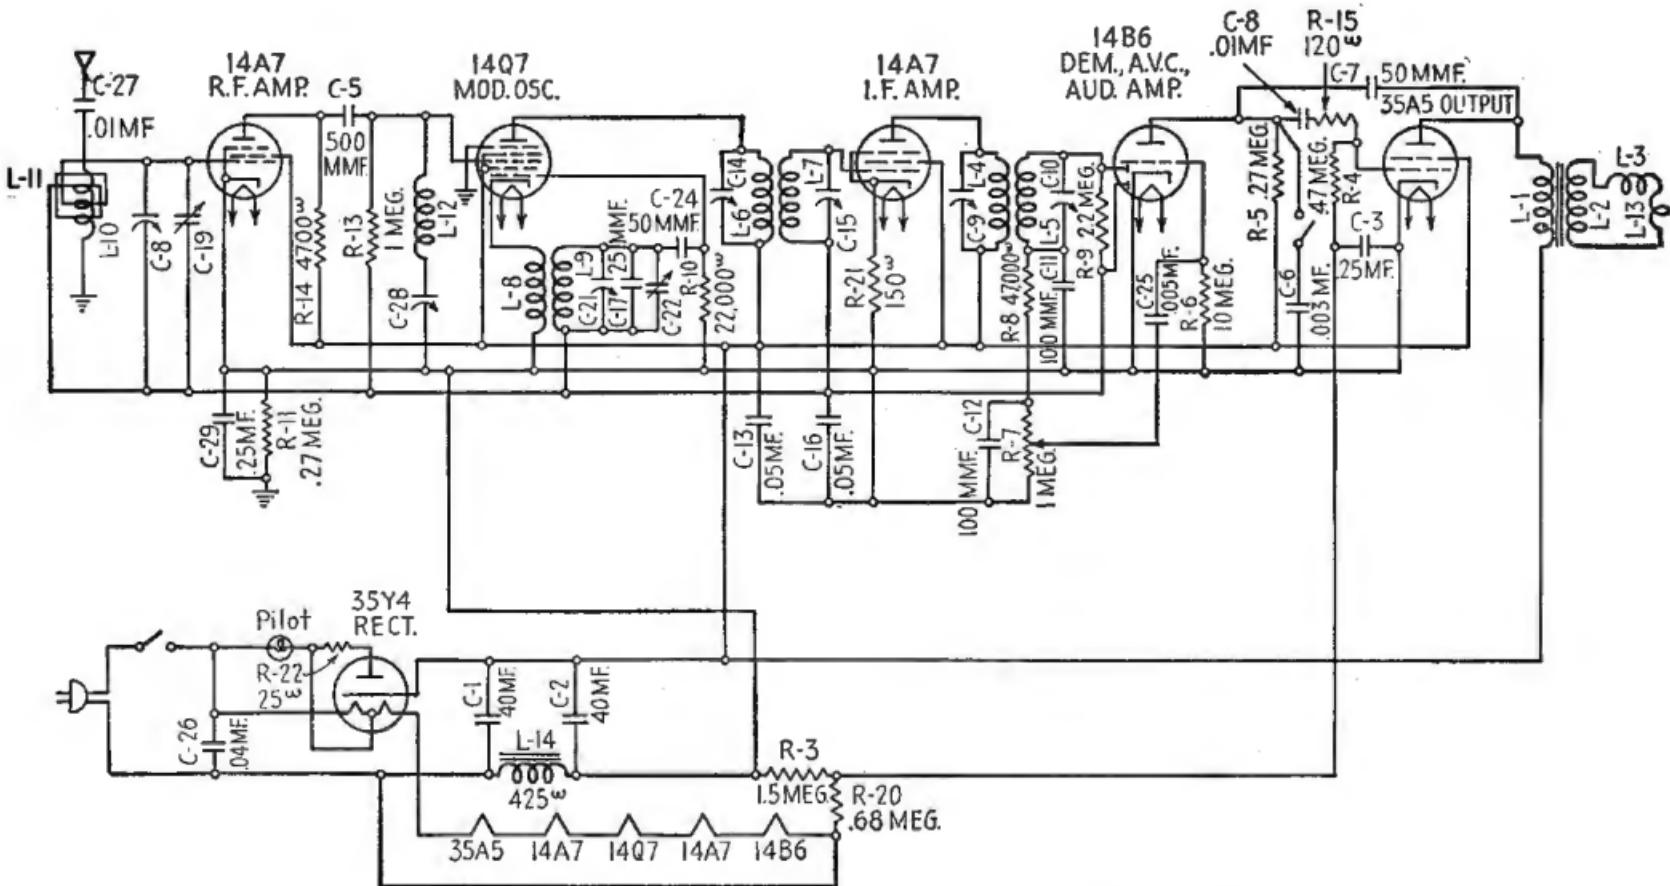

FIG. 16-10.—Schematic diagram of the Stromberg-Carlson No. 1000 receiver.
In loop receivers, the trap is usually placed in the converter signal grid circuit, where it serves a similar purpose by providing a low-impedance path to ground for signals at the intermediate frequency, which may be present in the converter signal grid circuit. Coil $L-12$ and condenser $C-28$ make up this type of wave trap in the receiver of Fig. 16-10.
RF Stage Followed by an Untuned Converter.—Many receivers employ an RF stage that is resistance-coupled to the converter signal grid. This arrangement gives the receiver some of the advantages of an RF stage while using only two tuned circuits: the RF grid and the oscillator. The Stromberg-Carlson No. 1000 receiver shown in Fig. 16-10 uses this type of circuit.
The coupling between the RF and the converter tubes consists of RF plate load $R-14$, coupling condenser $C-5$, and converter signal grid load $R-13$. The circuit composed of $L-12$ and $C-28$ in the converter signal grid is a wave trap tuned to the intermediate frequency of the receiver. Similar circuits in other receivers use different values for the components in the resistance-coupling circuit. The plate load varies from 5,000 to 10,000 ohms. The coupling condenser varies from 0.0001 to 0.0005 mfd. The grid-load resistor is often smaller than the one shown in the diagram, 25,000 to 100,000 ohms being more usual. Another circuit difference is that some receivers bring the grid-load resistor to ground or common negative rather than to the AVC bus, as shown in Fig. 16-10.
4. The receiver of Fig. 16-10 gives poor reception in the customer's home although it operates normally on the service bench. A long out door antenna was suggested and installed. The reception was greatly improved but the receiver is now troubled with code interference all over the tuning range. What is likely to be wrong and how should it be checked?